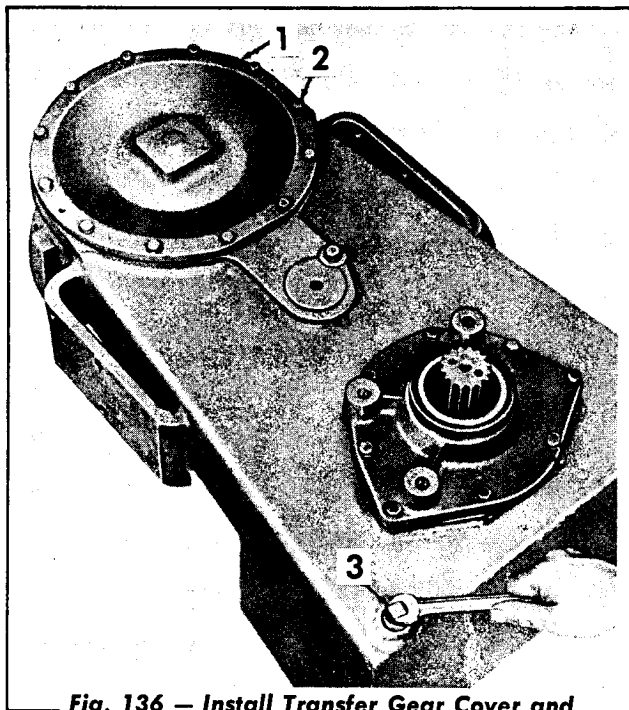

Fig. 136 — Install Transfer Gear Cover and Oil Drain Plug
7. Secure the transfer gear cover (Fig. 136) with the capscrews and lockwashers. Install the oil drain plug.